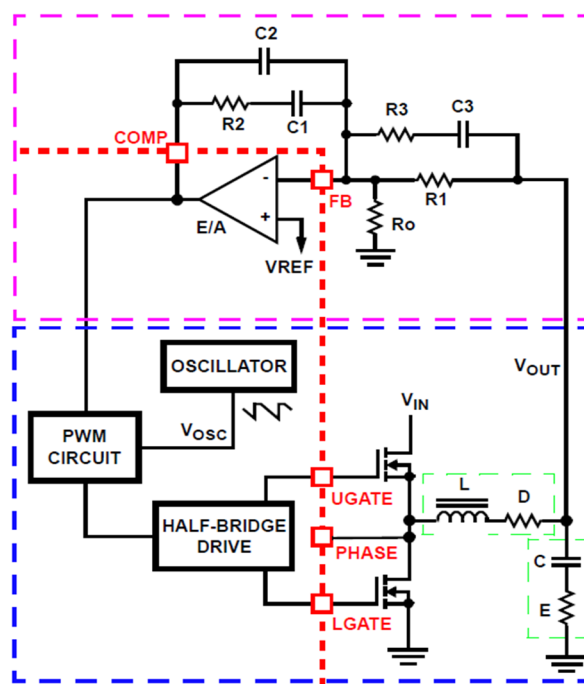

FIGURE 2. Voltage-Mode Buck Converter Compensation
The AAP6150A uses voltage-mode control to achieve compensation and fast load transient response. A type-3 feedback network is recommended (see Figure 2).
The compensation network consists of the error amplifier (internal to the AAP6150A) and the external R1-R3, C1-C3 components. The goal of the compensation network is to provide a closed loop transfer function with high 0dB crossing frequency ( $F_0$ : typically 0.1 to 0.3 of  $F_{SW}$ ) and adequate phase margin (better than 45 degrees). Phase margin is the difference between the closed loop phase at  $F_{0dB}$  and  $180^\circ$ . The equations that follow relate the compensation network's poles, zeros and gain to the components (R1, R2, R3, C1, C2, and C3) in Figure 2.
1. Select a value for R1 (1kΩ~10kΩ, typically). Calculate value for R2 for desired converter bandwidth ( $F_0$ ). If setting the output voltage via an offset resistor connected to the FB pin,  $R_0$  in Figure 2, the design procedure can be followed as presented.